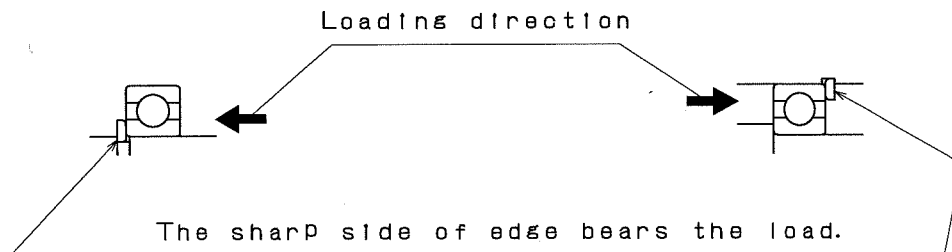

Fig.15
- Always replace the split pin and Retaining ring(43) with new ones at reassembly.
- 1) Assembling direction for Retaining ring (See Fig. 15)